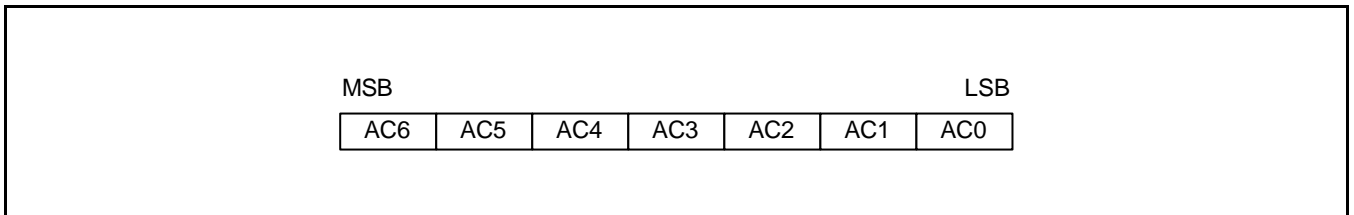

Figure 5. DDRAM Address
DDRAM stores display data of maximum 80 x 8 bits (80 characters). DDRAM address is set in the address counter (AC) as a hexadecimal number. (Refer to Figure 5).